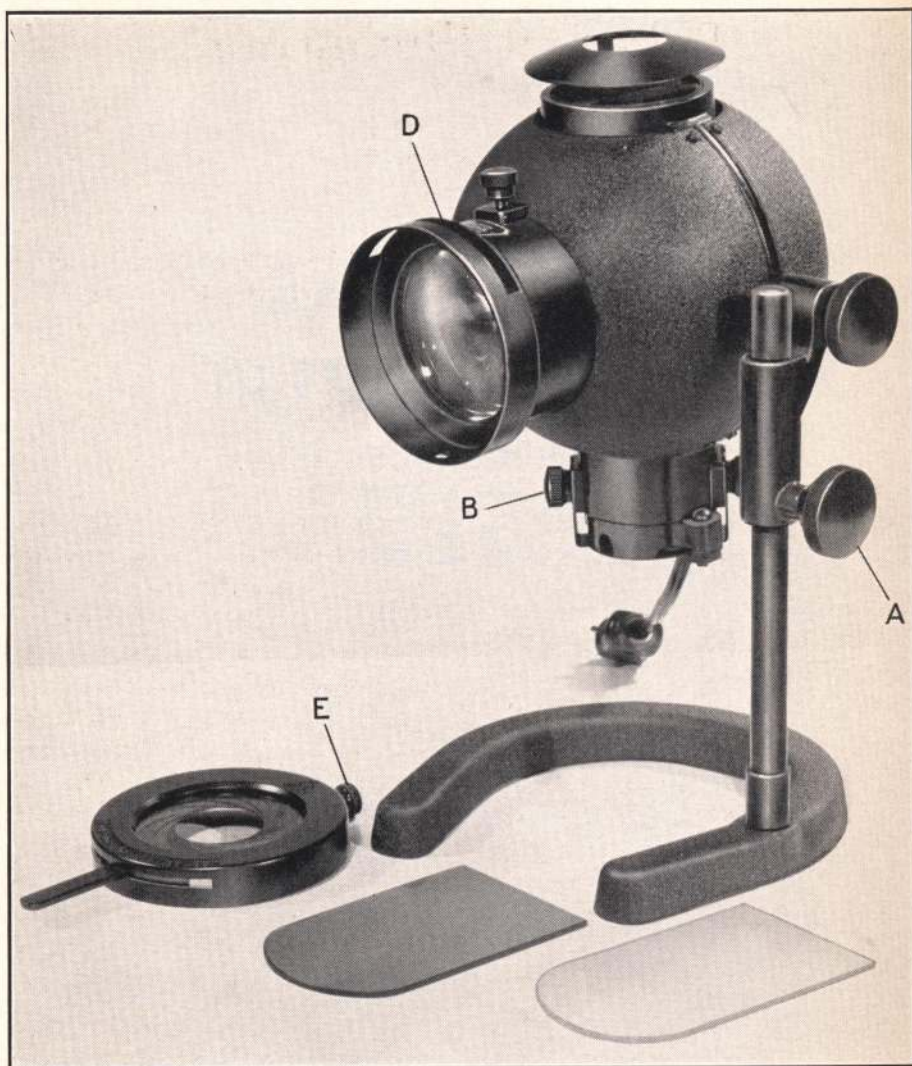
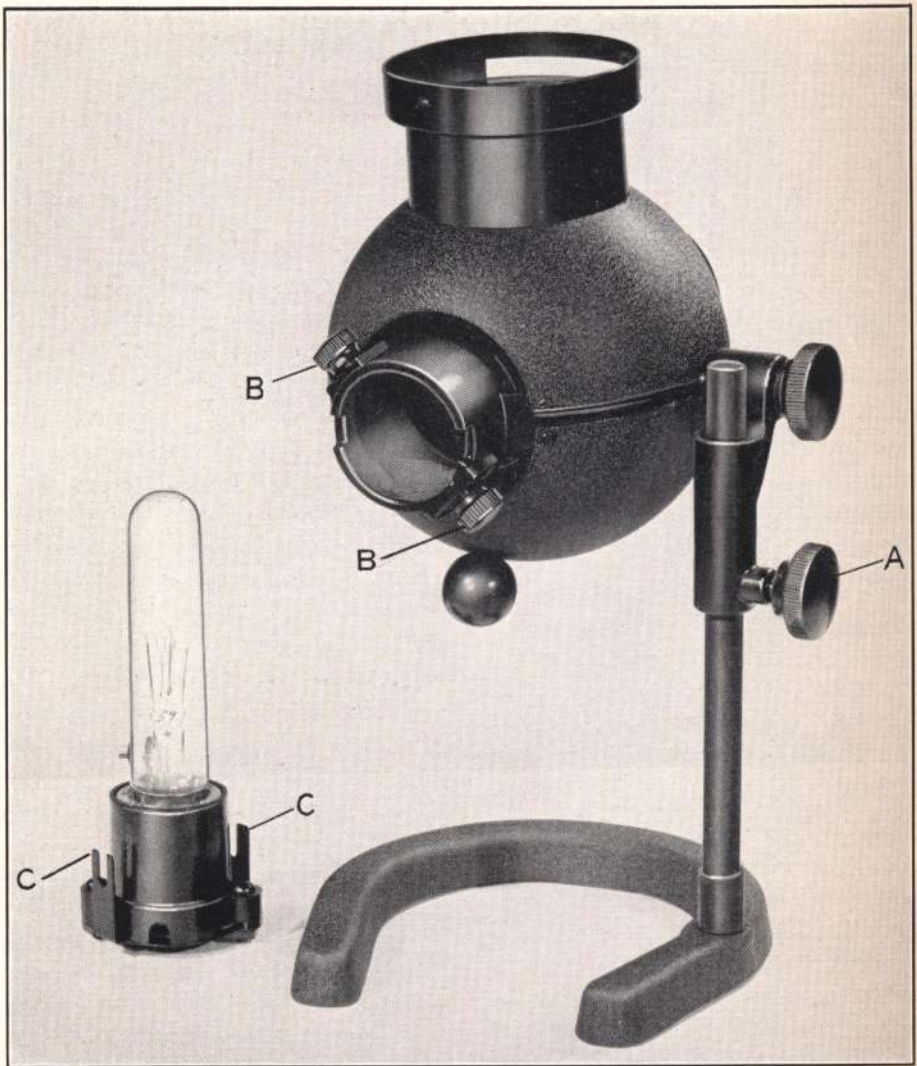
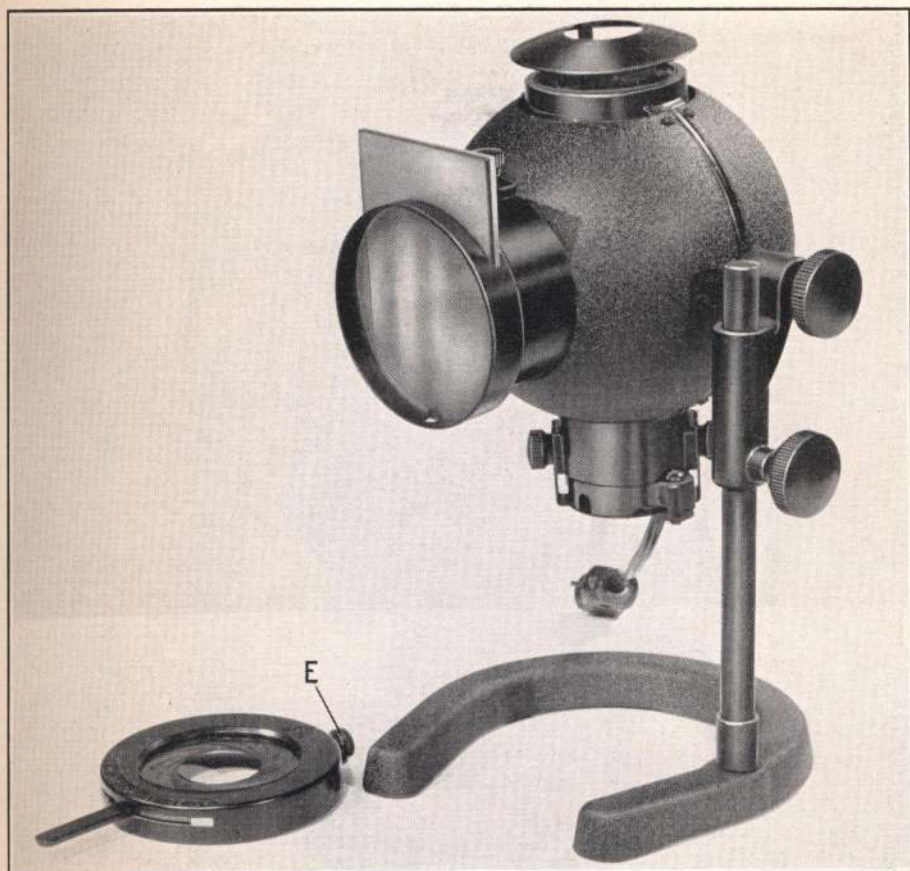
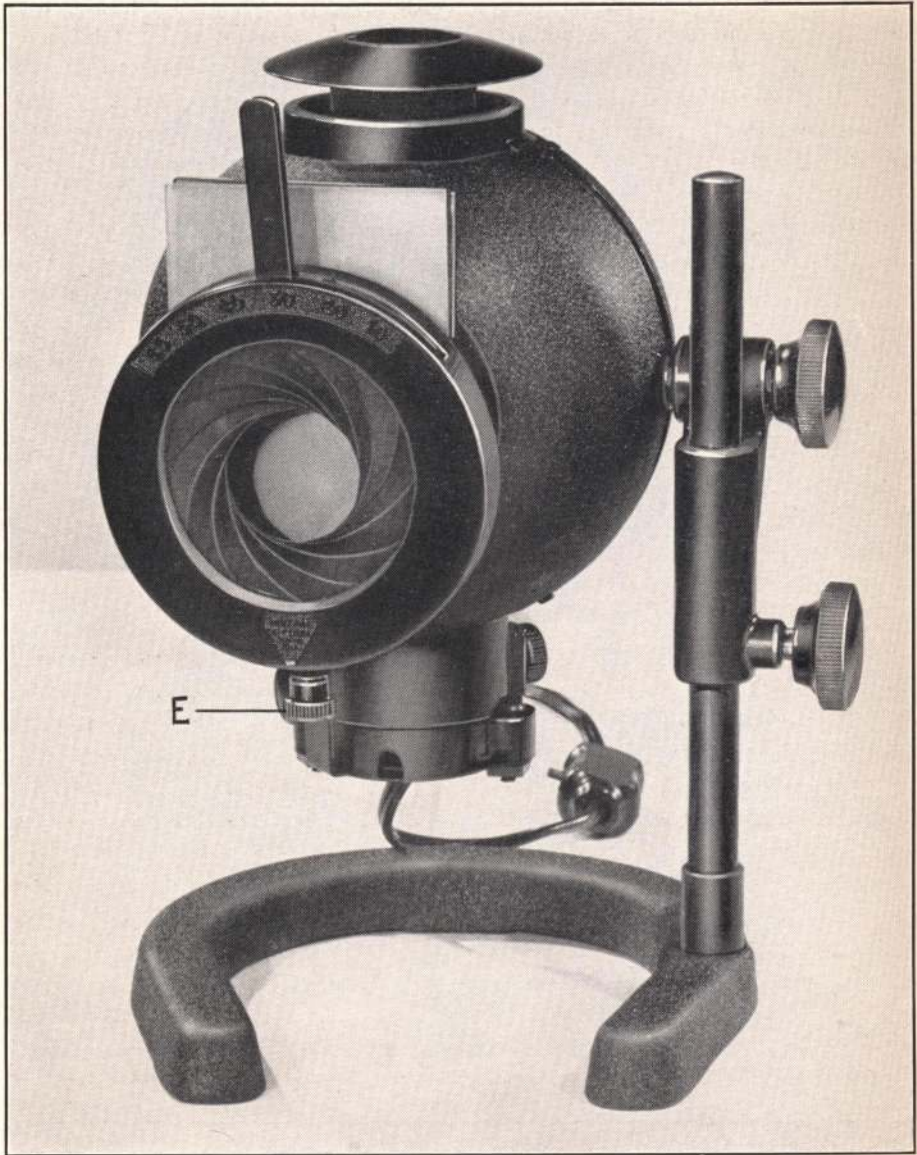

Figure 1
Figure 2
Figure 3
Figure 4
To attach the lamphousing to the support rod, turn out the clamp screw (A), Fig. 1, and slide the bracket of the lamphousing down over the support rod. Fig. 1 shows the illuminator properly assembled.
The lamp socket is held in the lamphousing by the two thumb screws (B), Figs. 1 and 2. To put in the lamp tilt the illuminator up as shown in Fig. 2, turn out the thumb screws (B) and pull out on the base of the lamp socket. Fig. 2 shows the socket removed and the lamp placed in the socket. Note that the base of the lamp is fitted with two flanges, one of which is wider than the other. Turn the lamp as it is placed in the socket until the flanges are over the slots of corresponding width in the socket. Press down on the lamp and turn it a quarter turn to the right to lock the lamp in place. (Reverse the motion to remove a lamp from the socket.)
ing in the bottom of housing and slip the two metal strips (C), Fig. 2, attached to the socket into the grooves of the lamp socket holder. Note that one of the metal strips is wider than the other and the slots into which they fit are of corresponding size. The socket can be inserted in only one position, so that the lamp filament will always be held in correct position with respect to the condenser lens. The 115 volt 100 and 200 watt lamps may be operated from either A.C. or D.C. lines.
The filters are to be inserted square end uppermost in the slot (D) provided at the front of the condenser lens tube. (See Fig. 1). Fig. 3 shows the filters in place in the illuminator.
Fig. 1 illustrates the 31-34-33 iris diaphragm which may be attached to the Spherical Illuminator. To attach the diaphragm turn out the screw (E) and slip the diaphragm on over the flange at the front of the condenser lens tube of the illuminator. Tighten the screw (E) to hold the diaphragm in place. Fig. 4 shows the diaphragm in position on the illuminator. The scale on the iris reads directly in millimeters the opening of the iris at any particular setting of the handle. When the iris diaphragm is attached to the illuminator, the microscope substage con-